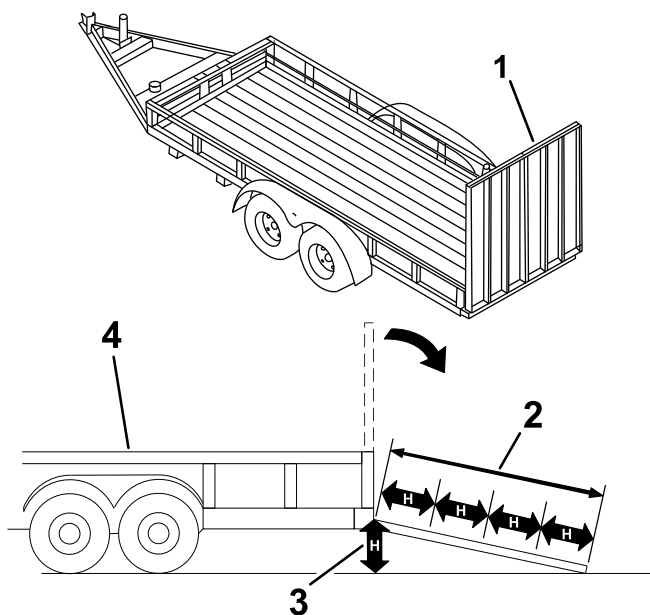

Figure 25
Loading a machine onto a trailer or truck increases the possibility of tip-over and could cause serious injury or death (Figure 25).
3. Lower the ramp (Figure 25).